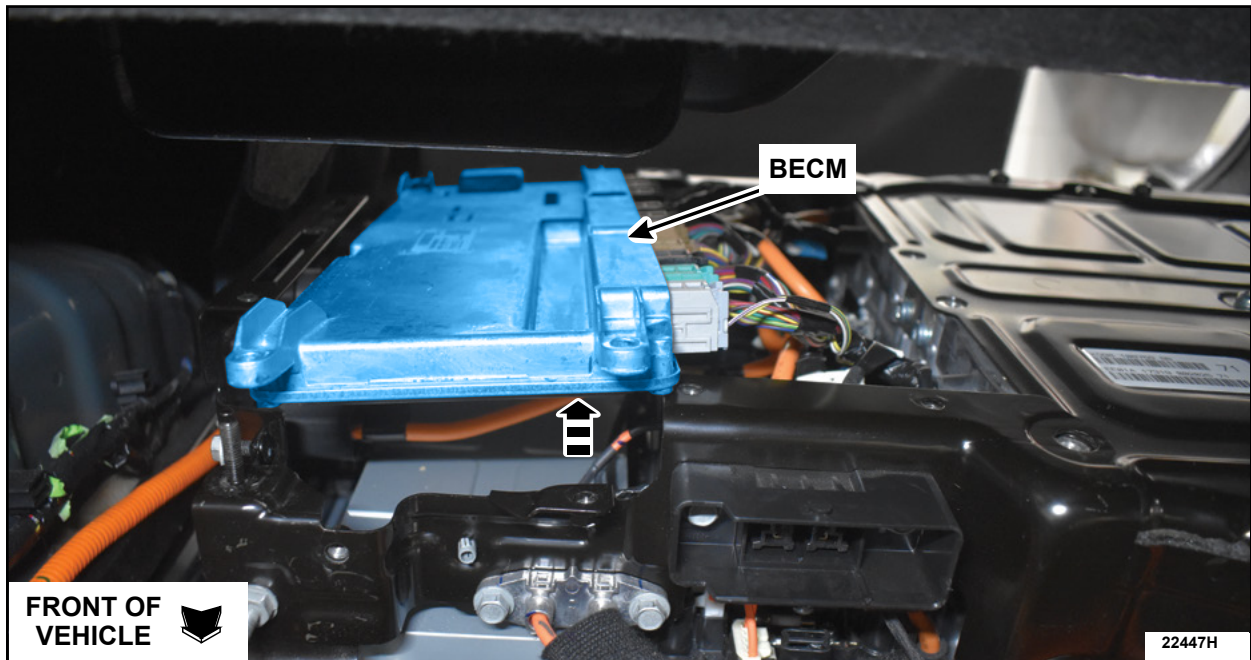

FIGURE 8
11. Position the BECM upwards. See Figure 8.